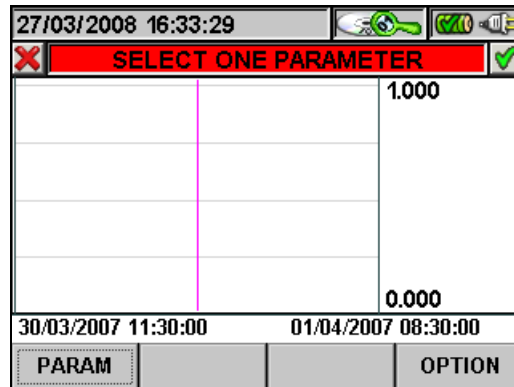

Fig. 118: Selecting a parameter
- The **ESC** key (or smart icon) to exit the function and go back to the “Selecting a parameter” page (Fig. 118).
- The **ESC** key (or smart icon ) to exit the function and go back to the “Selecting a parameter” page (Fig. 118).
3. Press the **ESC** key (or the smart icon ) to exit the function and go back to the “Selecting a parameter” page (Fig. 118).